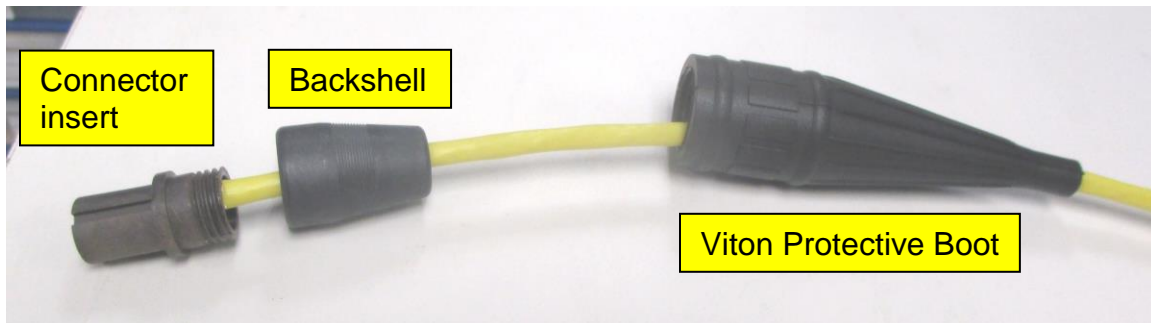

Figure 4
1. Feed the backshell onto the cable toward the Viton seal-tight boot, as shown in Figure 4 below.